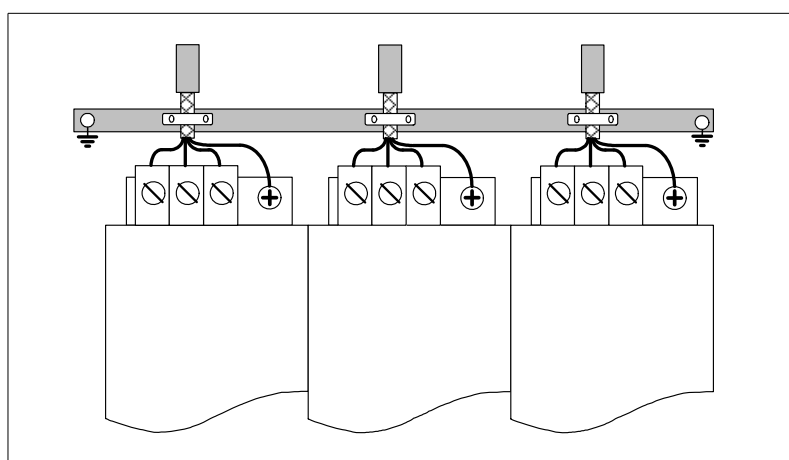

FIGURE H8.7
- When connecting power cables, the shield of this cable should be connected to a ground bar. See **FIGURE H8.7**.